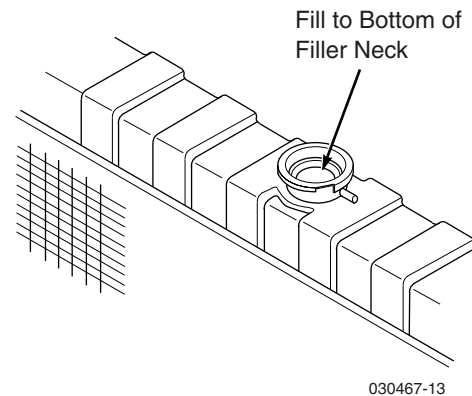

Figure 7-13 Coolant Level in Radiator
2. Visually check the coolant level. The coolant level should be up to the bottom of the filler neck as shown in figure 7-13. Add a mixture of coolant and soft water as needed.